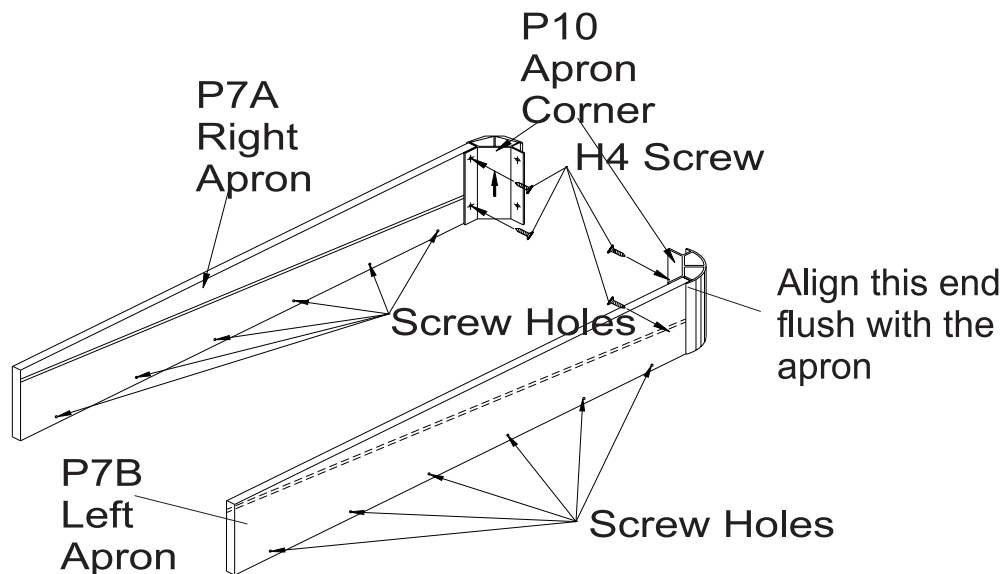

Figure 5
10. Attach the two apron corners **P10** with the arrows facing up, to the side panels **P7A** and **P7B** using screws **H4** as shown in **FIGURE 5**.